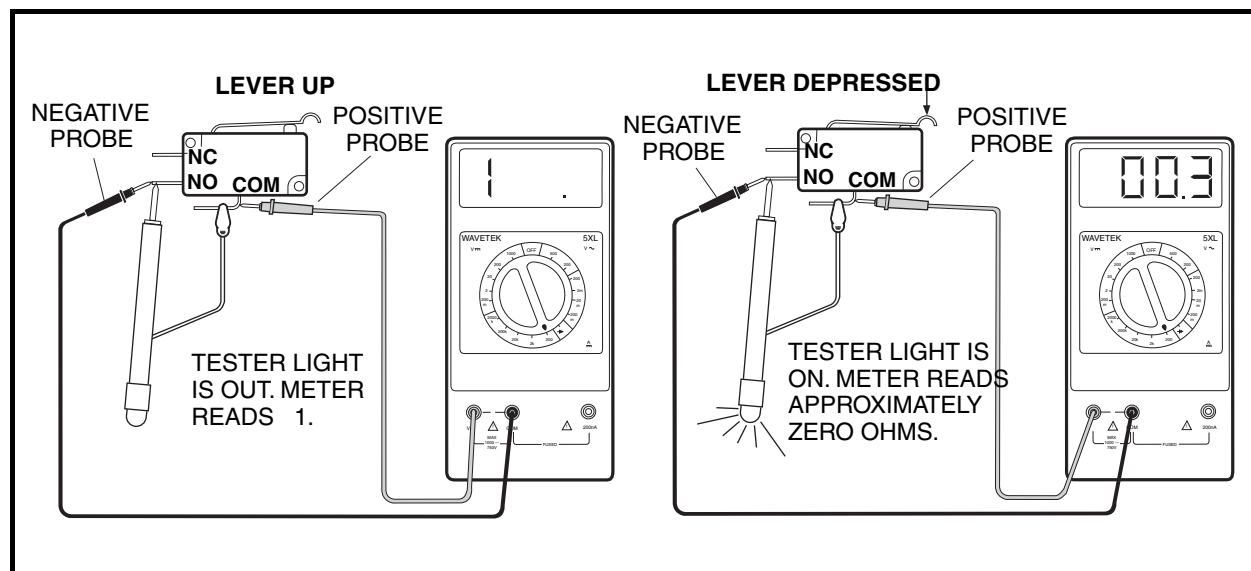

Figure 11-14 Test Lockout Cam Limit Switch
4. Set the multimeter to 200 ohms. Place the red (+) probe of the multimeter on the common (COM) terminal of the limit switch. Place the black (–) probe on the normally open (NO) terminal of the switch. Without the lever pressed, the reading should be no continuity. Press the lever, and the reading should be continuity. If either reading is incorrect, replace the limit switch (**Figure 11-14, Page 11-16**).